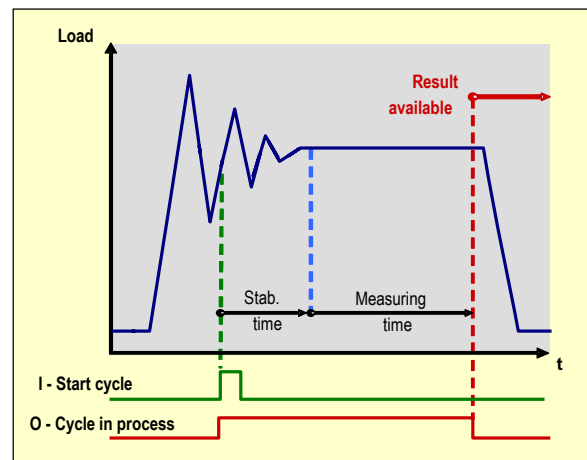

Fig. 8
- a duration prior to an edge on an input assigned to '*stop checkweigher cycle*' (Fig.8).